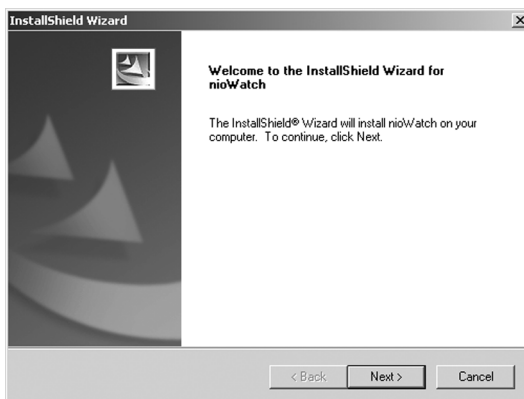

Figure 30
1. Click **“Next”** on the Welcome Screen of the BARCO NioWatch InstallShield Wizard (figure 30) to begin the installation or click **“Cancel”** to cancel and return to the BarcoMed Product Install Wizard.